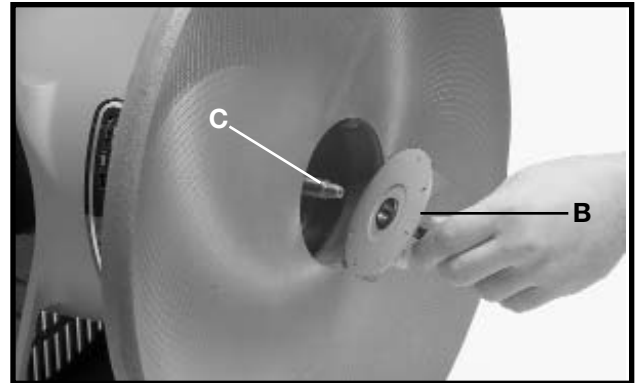

Fig. 6
3. Carefully place the machine on its side (Fig. 6). Attach the spindle adapter (B) Fig. 6, to the motor shaft (C), by turning the spindle adapter counterclockwise on the shaft. **NOTE:** Motor shaft has a left-hand thread.